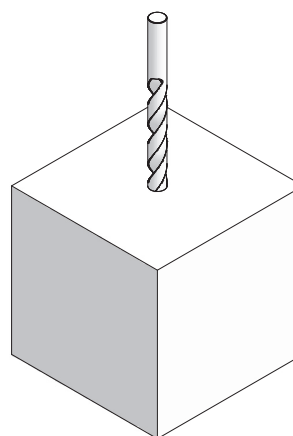

Fig. 9.4
2. When the concrete has sufficiently set and when you are about to install the tie rods, drill out the styropore core with a drill (14-14.5 mm) and remove the styropore (Fig. 9.4). This method of removing the styropore directly before installing the tie rod prevents dirt, ice and water from entering the tie hole.